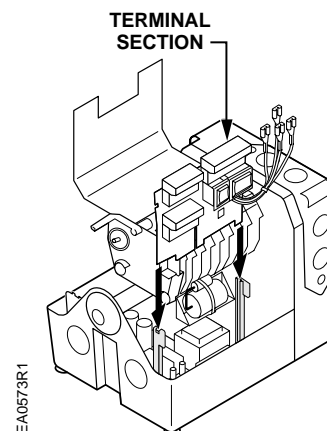

Figure 25
7. Gently guide the terminal board into the support slots and slide the terminal board downward until both supports snap into place. See *Figure 25*.